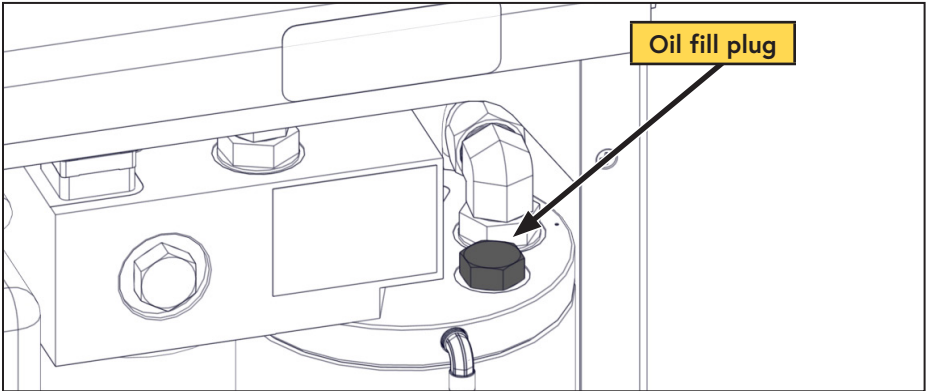

Figure 13 — Add compressor oil
- Remove the oil fill plug from the top of the AOST (Figure 13).